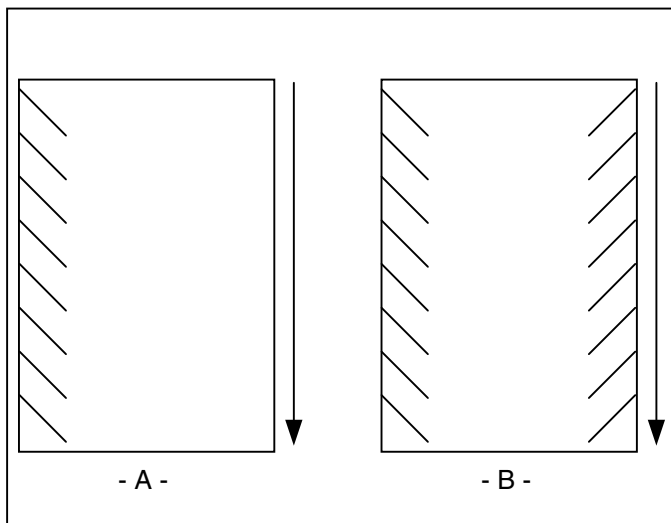

Fig. 36
3. Angled waves in the output (Figure 36 A & B).
- Check for even paper tension (Figure 36 A only)